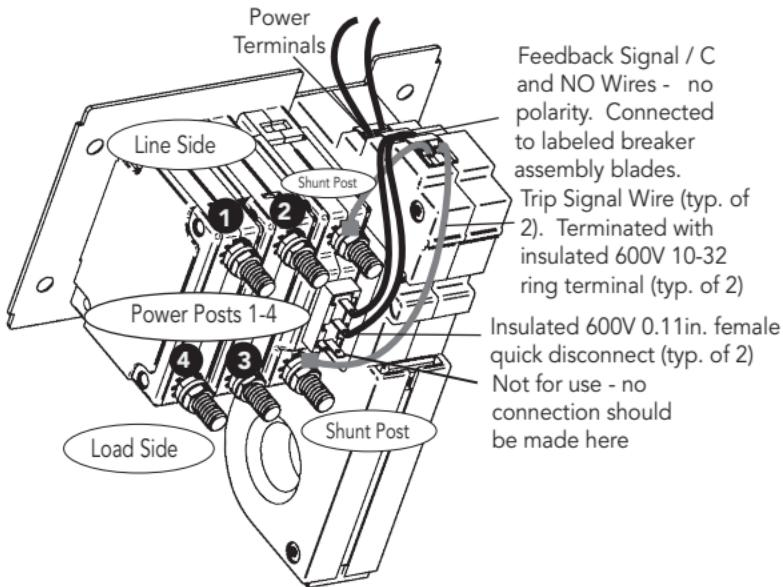

Figure 6. Pre-Wired GFPD-150V / Breaker Assembly
The GFPD-150V and breakers are assembled at the factory. Breaker shunt, (C) and (NO) leads are pre-wired to the GFPD-150V terminals - See Figure 6. The GFPD-150V external voltage source connections are described in the next section - Completing Wiring.
3.2.2 Completing Wiring - See Figures 6 and 7
Step 2. Crimp the supplied ring terminals on the ends of the (+) and (-) solar->breaker conductors, and connect solar array (+) wire to post (4) (load side), and solar array (-) wire to post (2) (line side) using the supplied hardware (see Figure 6).
Step 3. Crimp the supplied ring terminals on the breaker side ends of the (+) and (-) breaker->controller conductors. Connect breaker side (+) wire to post (1) (line side), and breaker side (-) wire to post (3) (load side) using the supplied hardware (see Figure 6).